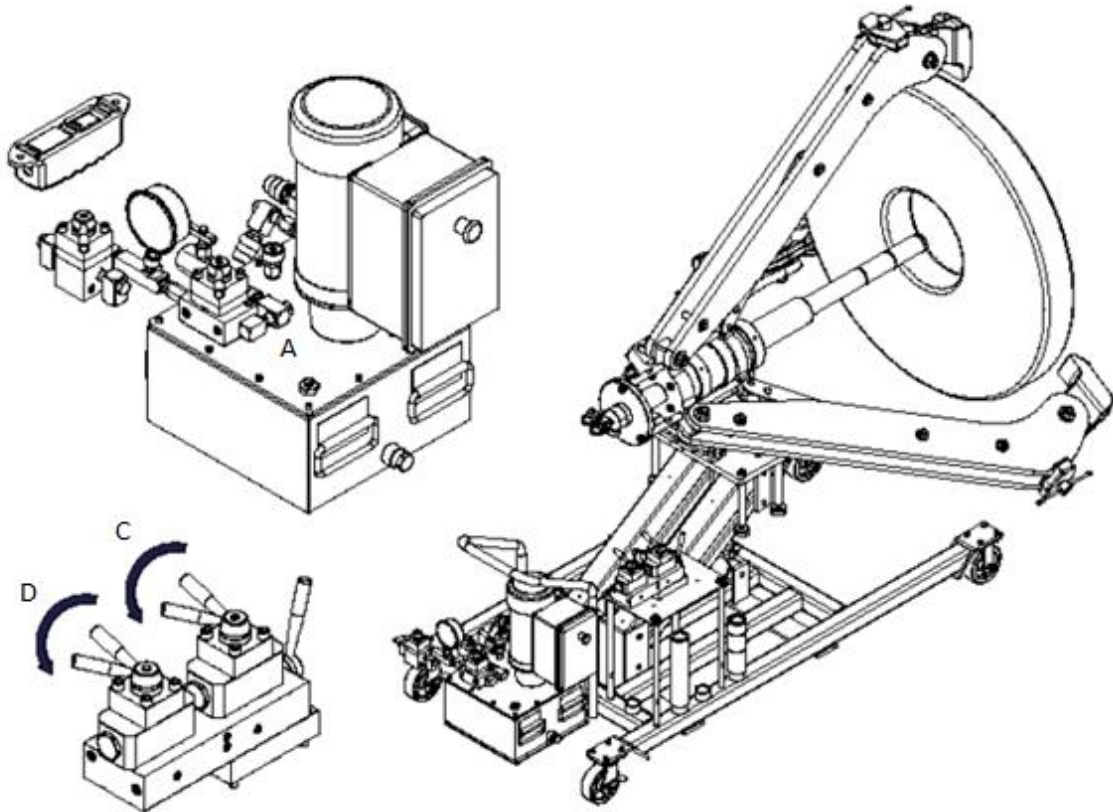

Figure 9 – Opening the Jaws
5.4.3 Switch the power unit and control panel valve handles (A, C, D) as shown in Figure 9 to open the jaws.